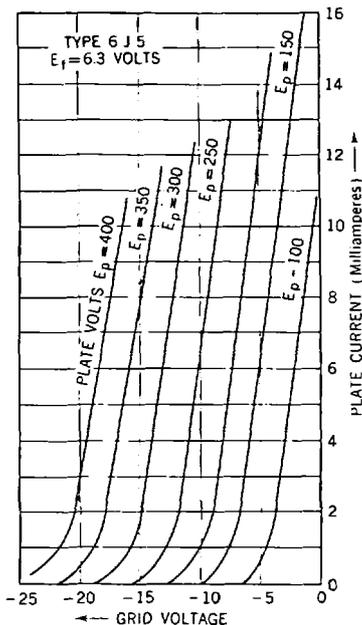
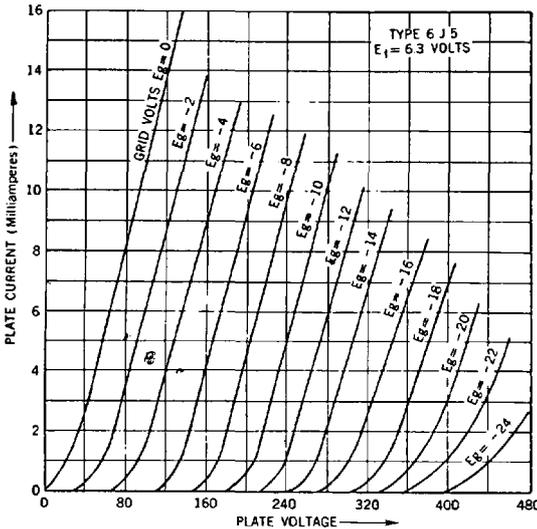

Fig. 38-7. Family of transfer, or mutual-characteristic, curves for the triode (type 6J5).
Fig. 38-8. Family of plate characteristic curves for the 6J5 triode.
as the 6J5 tube is shown in Figure 38-7.
There is another tube relationship that may be expressed by a characteristic curve. If we keep the grid voltage ( $E_g$ ) constant and vary the plate voltage ( $E_p$ ), we get corresponding variations of plate current ( $I_p$ ). The curve showing this relationship is called the *plate characteristic curve*. If we take different values of grid voltage, we are able to obtain a *family* of plate characteristic curves (Fig. 38-8). The tube used in this illustration is the same as for Figure 38-7.
**How We Use the Characteristic Curves.** An examination of the family of curves shown in Figure 38-8 shows us the interrelation of the grid-bias voltage, the plate voltage, and the plate current. Knowing any two values will give us the third. Thus, if we know we are to apply a grid bias of  $-8$  volts to the 6J5 tube and place 250 volts on the plate, we can determine the plate current that will flow during the maximum signal swing. Here is how.